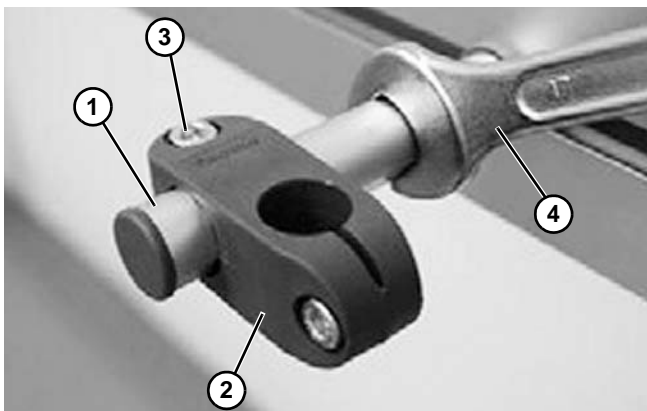

Figure 90
2. Attach the guide rail (**Figure 90, item 1**) to the clamp (**Figure 90, item 2**). Tighten the screw (**Figure 90, item 3**). Remember, do not over tighten the screw.
3. Use a wrench (**Figure 90, item 4**) to tighten the guide rail to the frame. Remember, do not over tighten the screw. Install remaining brackets.